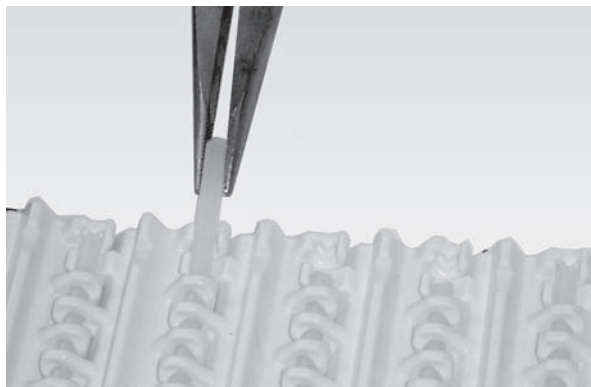

Figure 51
3. Remove the belt rod by gripping the end with a set of pliers and pulling (Figure 51).